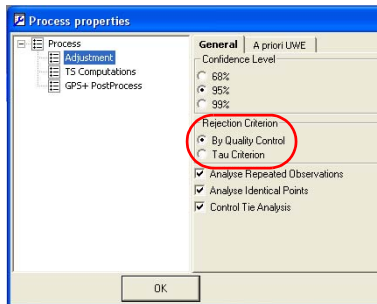

Figure 6-23. Select Rejection Criterion Test
2. On the Adjustment tab, select the desired rejection criterion (Figure 6-23).
Note that  $Tau_{critical}$  depends on the number of degrees of freedom and the selected level of confidence (Figure 6-23 on page 6-22).